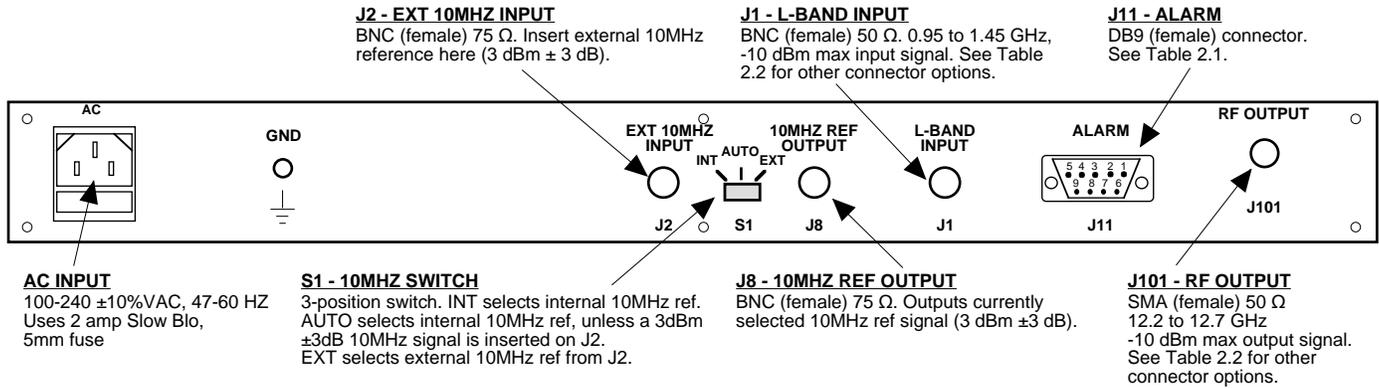

FIGURE 2.1 2115-123 Rear Panel I/O's
2.2 Rear Panel Input/Output Signals - Figure 2.1 shows the input and output connectors on the rear panel.
1. Connect a -10 dBm to -30 dBm signal to L-BAND INPUT, J1 (Figure 2.1).
5. Select either INT (for internal 10MHz ref), AUTO (for internal 10MHz ref UNLESS a external 10MHz, +3 dBm signal is connected to J2), or EXT (for external 10MHz, +3 dBm ref that is inserted at J2) on rear panel switch S1 (Figure 2.1).
7. Check that a 10MHz, +3 dBm \pm 3 dB signal is present at the 10MHZ REF OUTPUT (J8) (Figure 2.1).